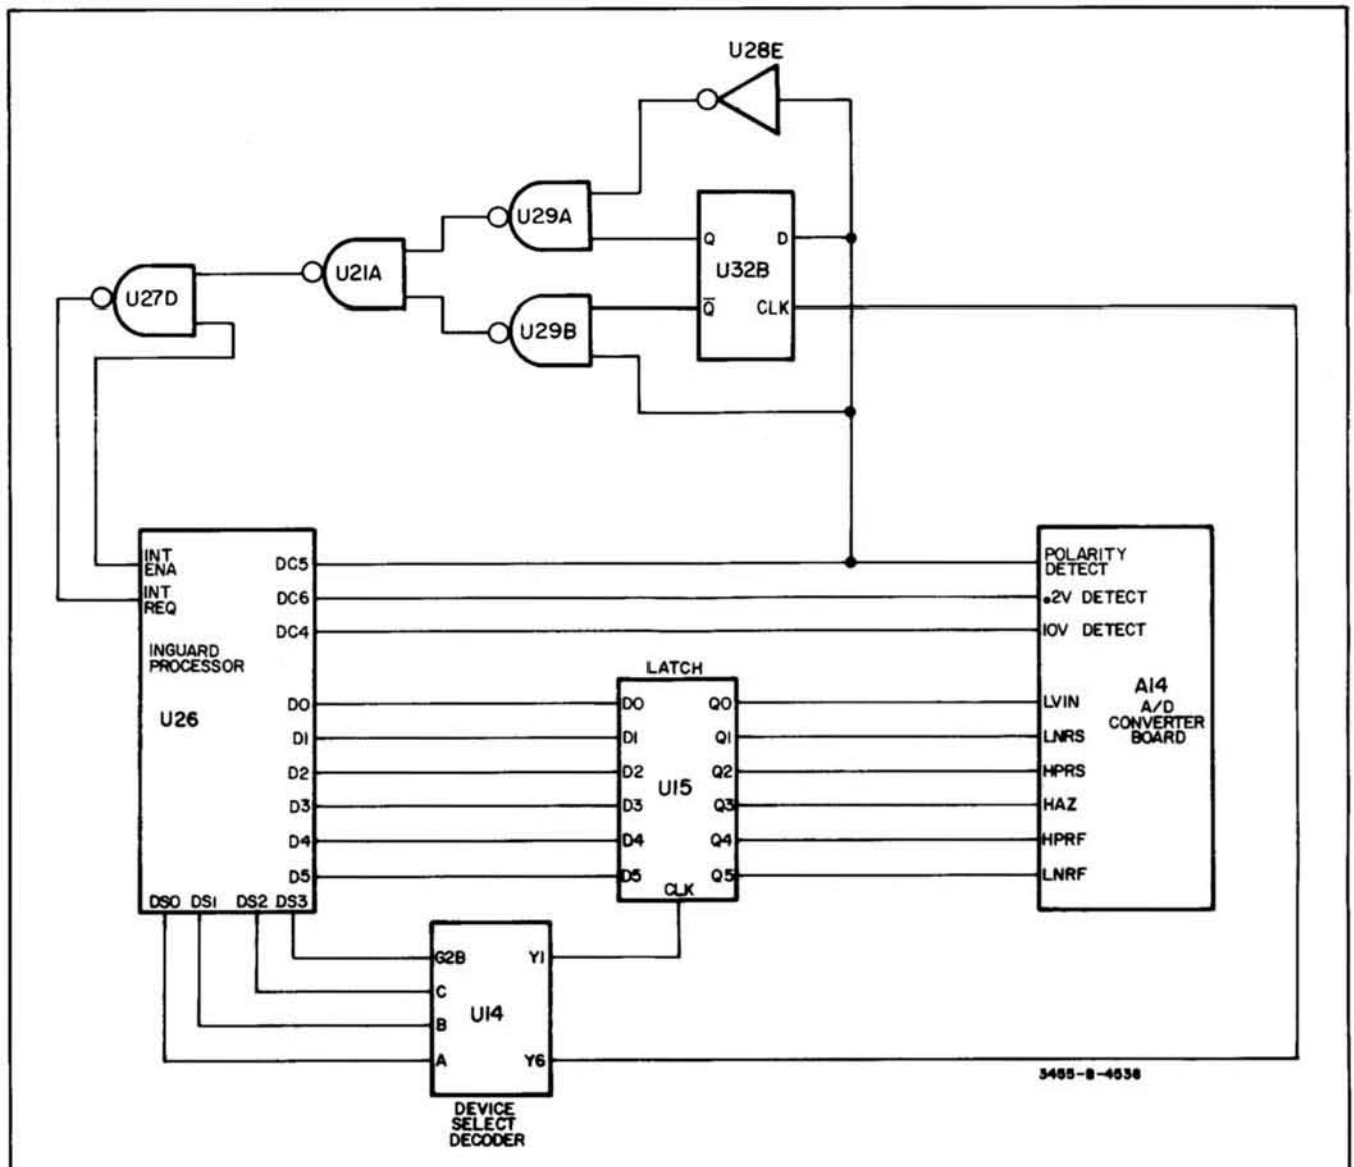

Figure 8-34. Simplified A/D Converter Control Circuit.
**8-111. A/D Converter Control Circuitry.** Figure 8-34 shows the control circuitry between the inguard processor and the analog-to-digital converter. There are six output lines from the inguard controller which control the input, reference, and auto-zero switches in the A/D Converter. Each output line controls one of the six switches in the converter. Switching information for the A/D Converter is set on the processor's data bus (outputs D0 through D5).